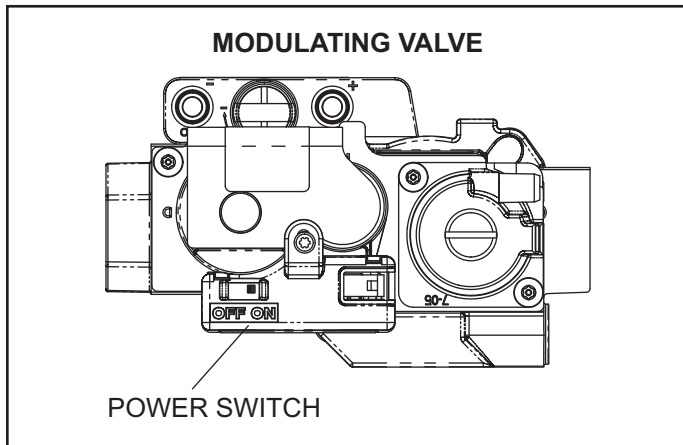
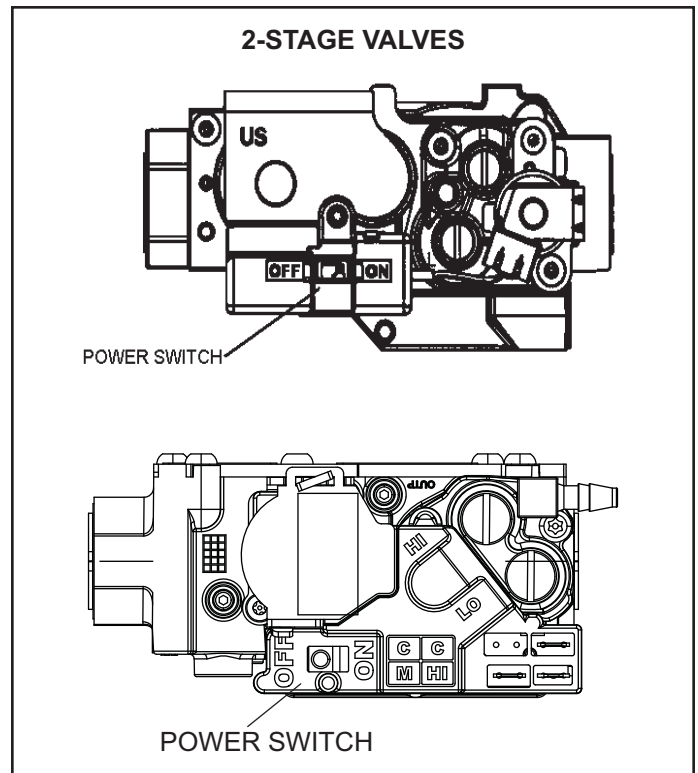

Figure 1. Modulating Gas Valve
Figure 3. Two-Stage Gas Valves
See Figure 1 through Figure 3
6. Move switch on gas valve to **OFF**. See Figure 1 through Figure 3.
8. Move switch on gas valve to **ON**. See Figure 1 through Figure 3.